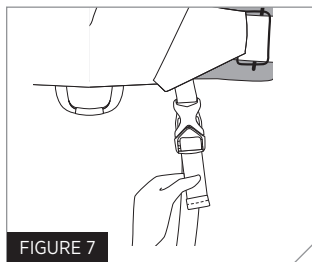

FIGURE 7
- After donning PFD: reach back between legs for the straps and buckle into bottom front of PFD (Fig. 7). Tighten by pulling down evenly on straps until the length is correct for your body while standing.